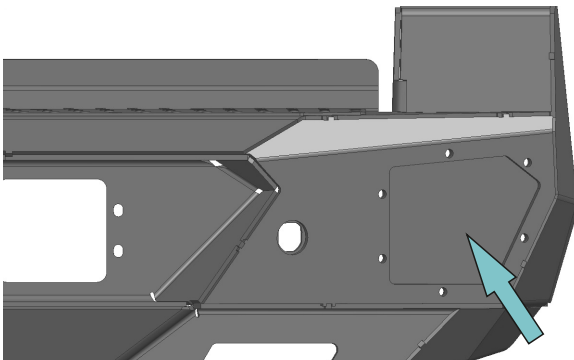

Fig. 21
21. Locate knock-outs for distance sensors on the bumper body (item 1) and knock them out by a hammer (Fig.21).